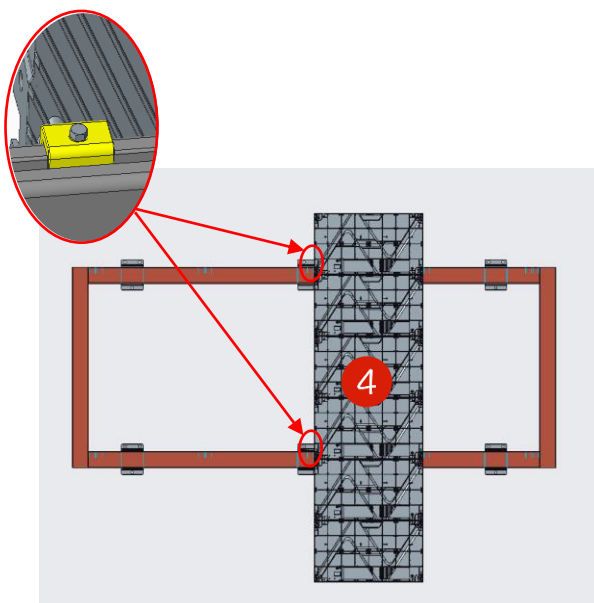

Figure 1
Step 2: Install the box columns in the order of 4-3-5-2-6-1, with the hook connectors on the back of the box hooked into the grooves of the back frame beam profile. Move the box so that it is centered and aligned with the marking line on the crossbeam, and install the box security screws using 2 M4X10 screws (as shown in Figures 1 and 2), install the box columns in sequence and lock the left and right connecting bolts on the box (as shown in Figure 3).